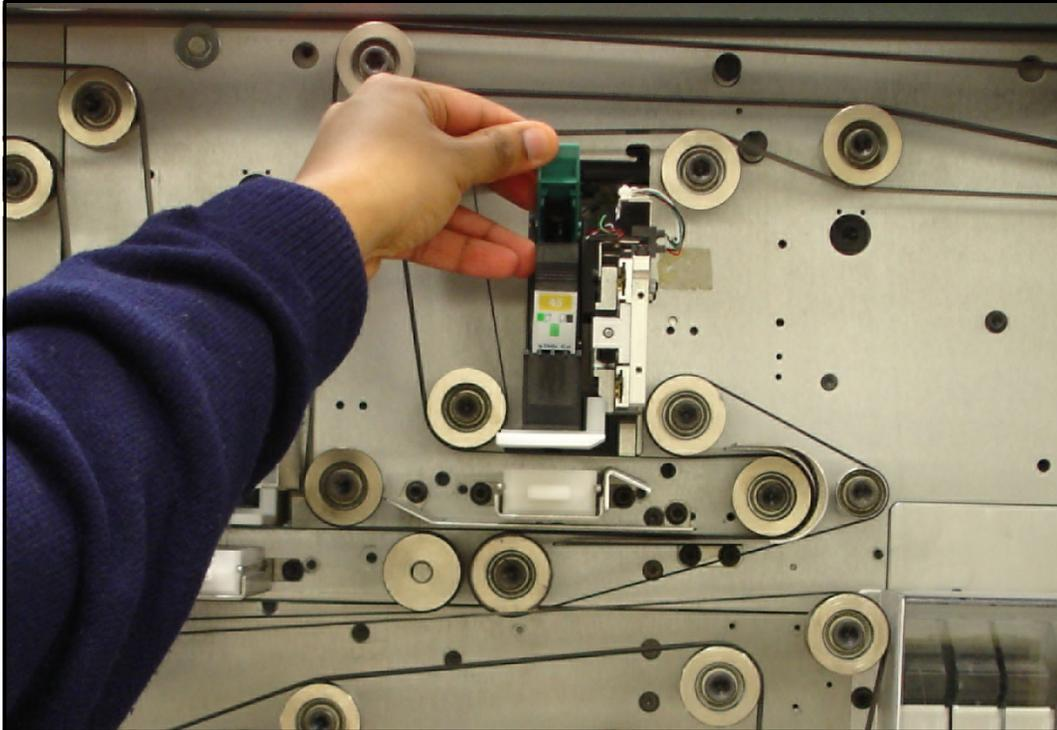

Figure 6-12: Removing the printer cartridge
3. Lift the latch that holds the printer cartridge in position (Figure 6-12), and remove the cartridge by lifting it up and away from the Eagle.